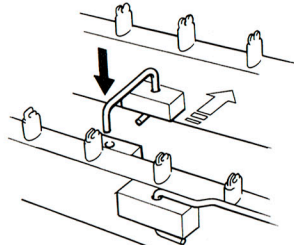

Fig 4
- 4 Connect the centers of the two rails with the clamp. Hook the clamp by widening the space between the rails. (Fig 4)